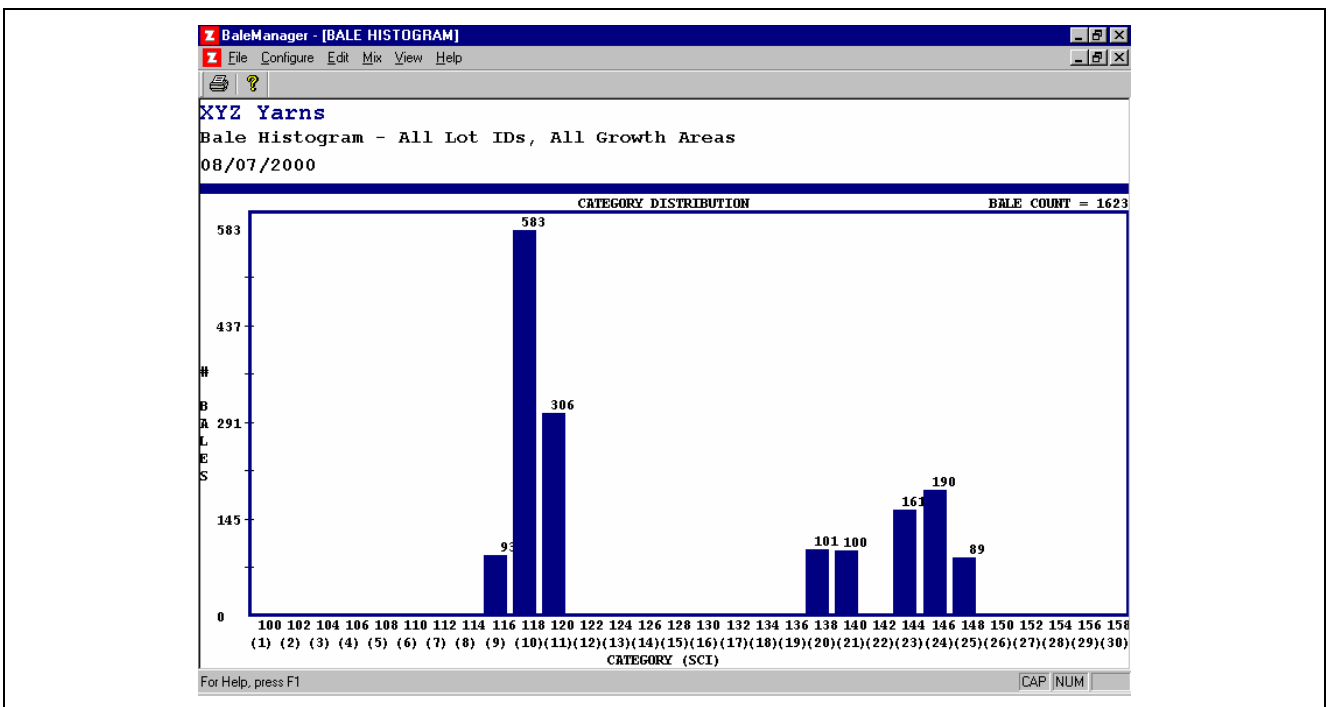

Fig. 6-82 SCI Histogram, All Lot Ids; Initial Category Definition
25.4 Select OK and the Histogram of the distributions of SCI appears. Bale Count will be shown in the upper right hand side. Also shown are the Category numbers, average value for each Category, and the number of Bales in each Category. Select the Printer Icon in the upper left-hand corner to print the SCI Histogram (Fig. 6-82), which used the Initial 101-2-30 Category Definition of Fig. 6-62. Exit by use of the upper right hand corner X to return to Fig. 6-58.